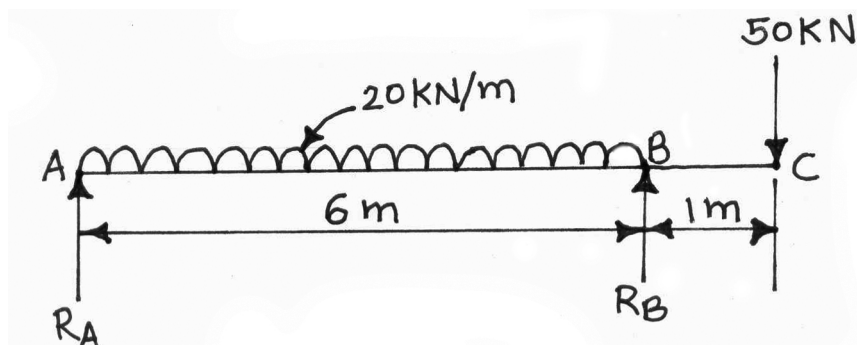

Figure No. 5.
- b) A beam is loaded and supported as shown in Figure No. 5. Draw S.F. and B.M. diagrams. State only meaning of point of contra flexure.